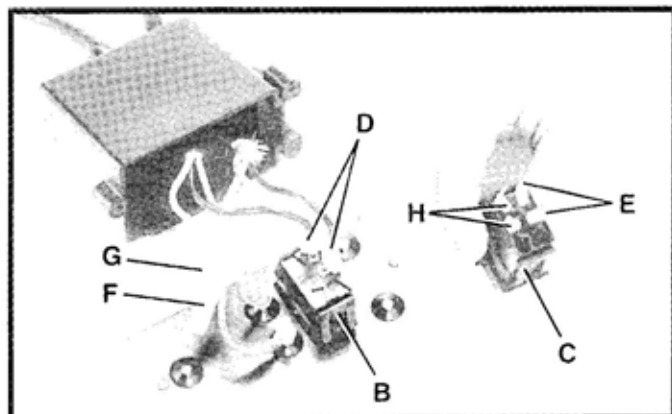

Fig. 31
5. The 115 Volt, single pole, on/off switch (B) Fig. 31, must be replaced with a 230 Volt, double pole, on/off switch. The two leads (D) that are connected to the single pole switch (B) must be connected to the two terminals (E) on the double pole switch (C). Remove wire nut (F) and fasten two 1/4" disconnect terminals (available from an electrical supply house) to the two wires (G). Connect the two wires (G) to the two terminals (H) on the double pole switch (C).